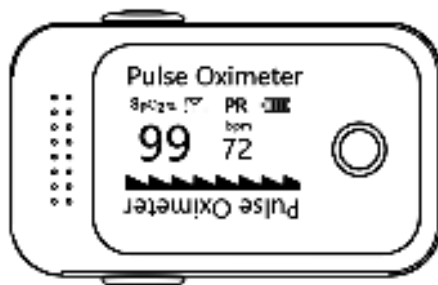

Figure 7
a. Press the "POWER/FUNCTION" button to power on the device, press it again to rotate the display orientation, as shown in **Figure 7** and **Figure 8**.